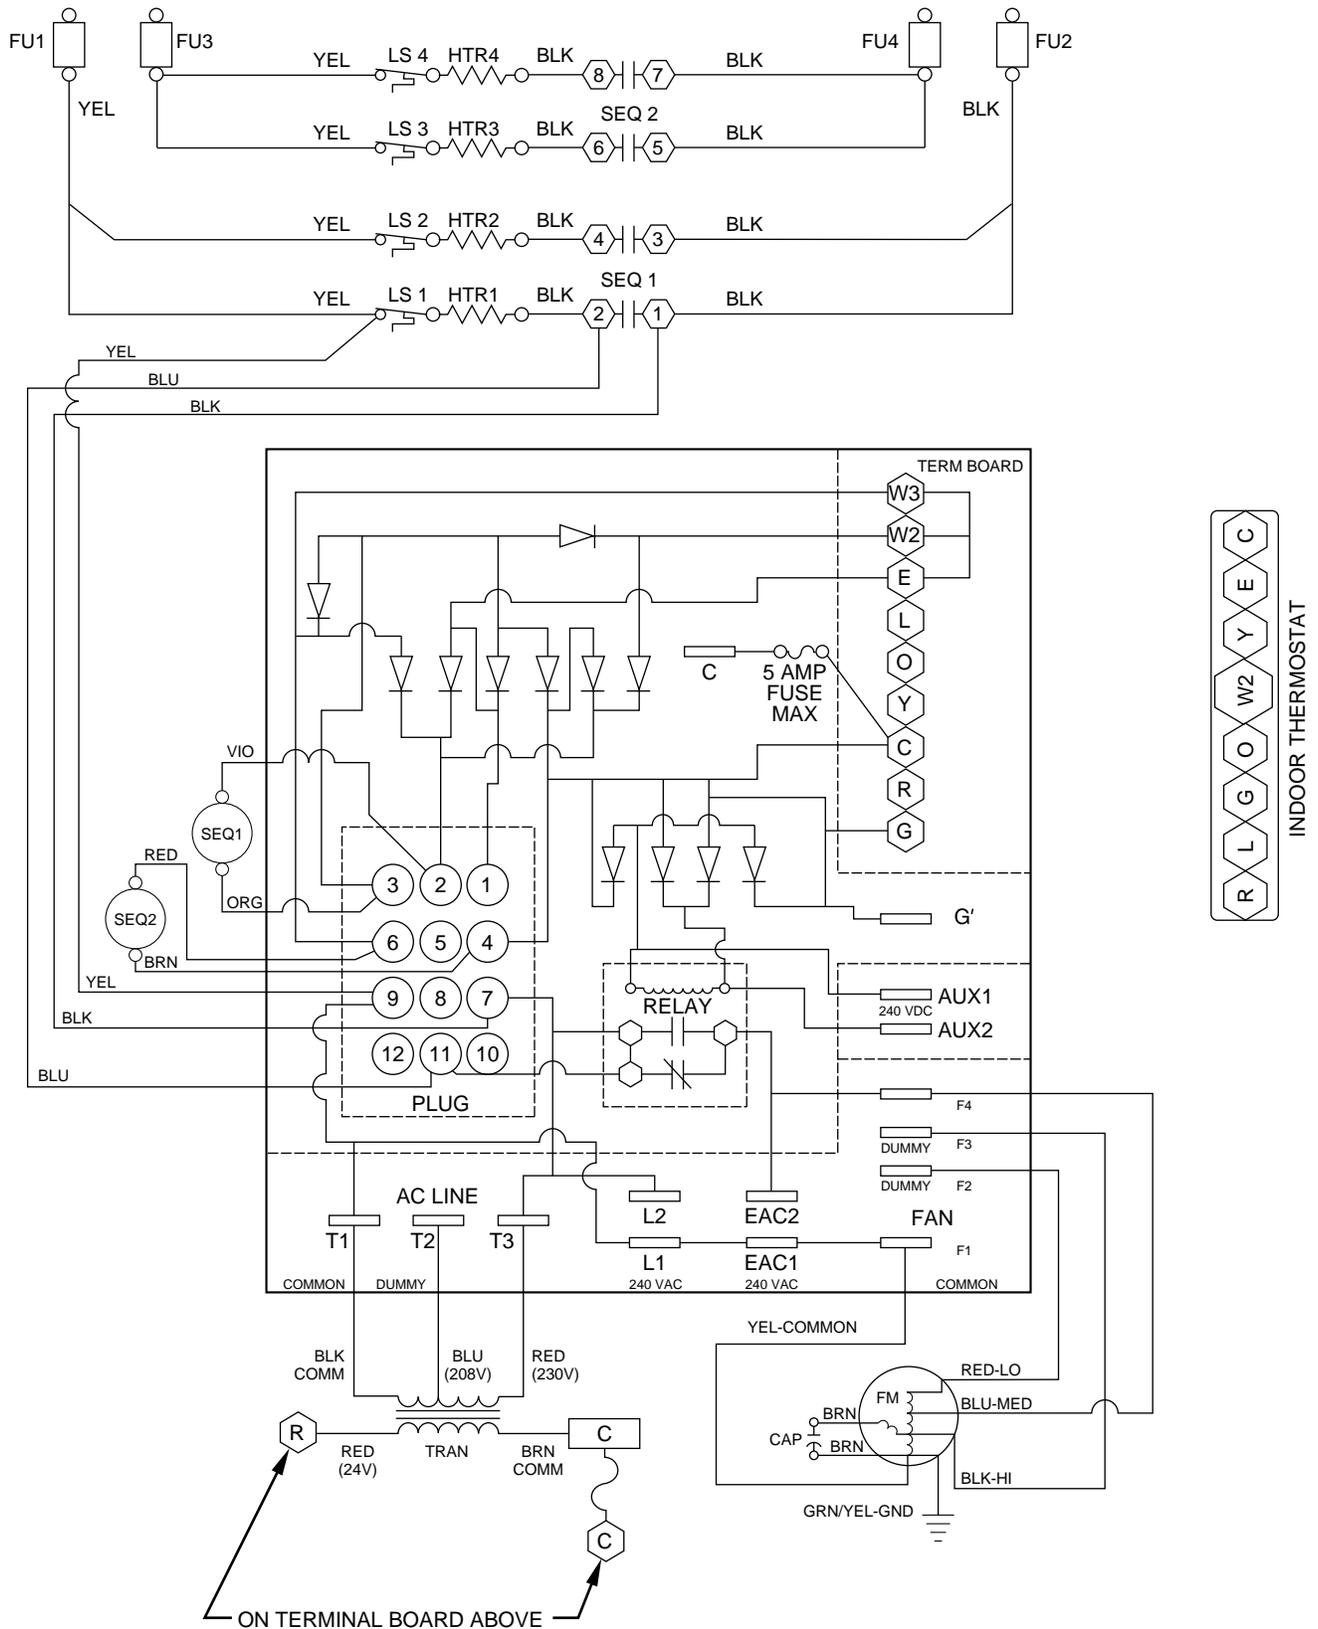

Fig. 13—Wiring Schematic
Use Fig. 13 wiring schematic as a guide in troubleshooting the PCB unless otherwise noted.
1. Check the low-voltage transformer leads, R and C. Make sure they are wired to the correct locations. Note that Fig. 13 shows wiring of the HK61GA001 board.
2. If any of the c diodes are blown, the fan is miswired to 1 of the low-voltage terminals, AUX1 or AUX2. Check to make sure that the fan leads are connected to the proper terminals as shown in Fig. 13. If the fan is connected properly, make sure that no other high voltage is applied to the AUX terminals.
2. Check the wiring of the sequencers as shown in Fig. 13. Make sure the low-voltage and the high-voltage wiring are connected to the proper sequencers.